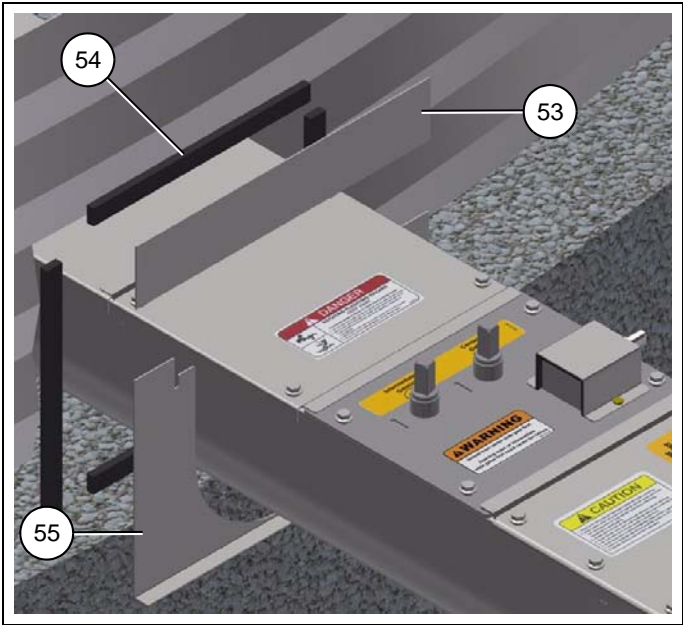

Figure 4C
3. Install the bin wall flange as shown in Figure 4C.